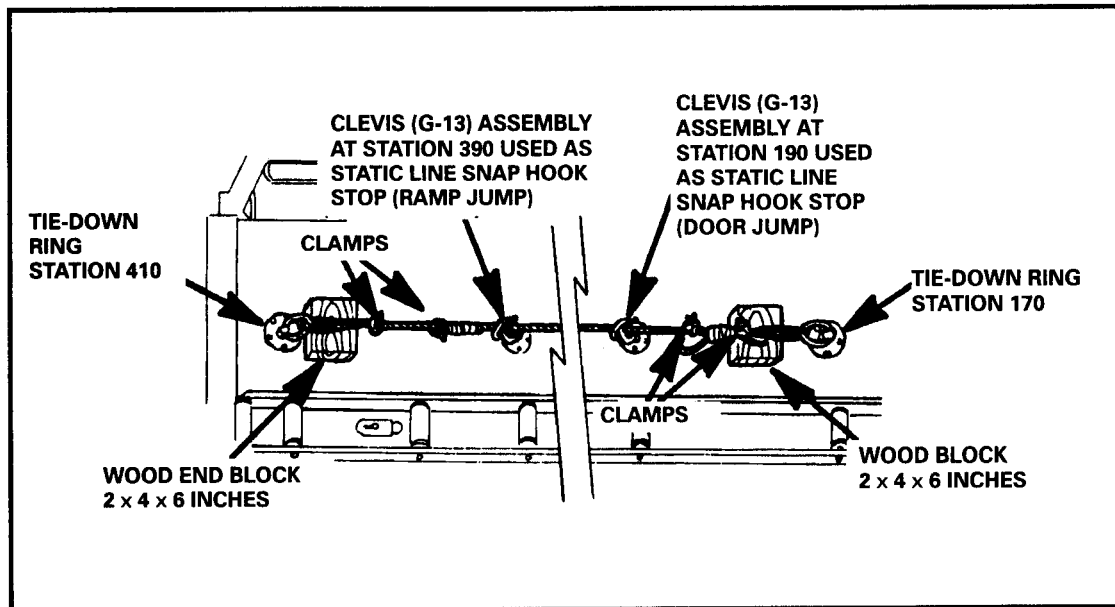

Figure 18-6. CH-46 anchor line cable installation.
(1) The anchor line cable is installed on the floor of the aircraft on the starboard side using the tie-down fittings at station number 170 as the forward attachment point and station number 410 as the rear attachment point (Figure 18-6)